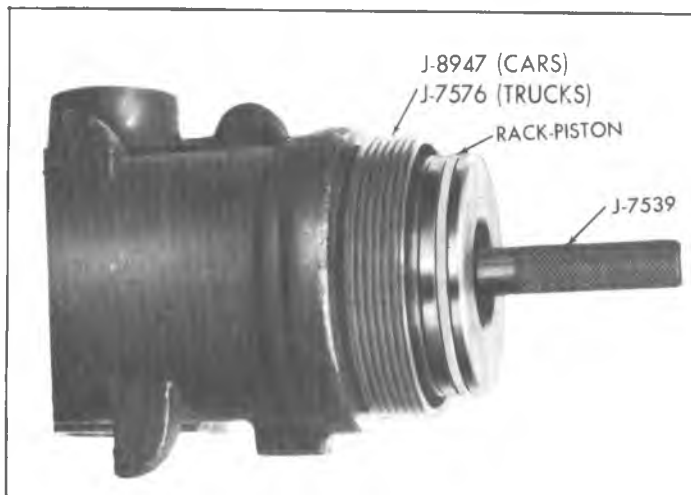

Fig. 60—Installing Rack Piston
- c. With Ball Retainer J-7539 in place in the rack-piston, push the rack-piston (with teeth toward pitman shaft opening), into the housing until Tool J-7539 contacts the center of worm (fig. 60).